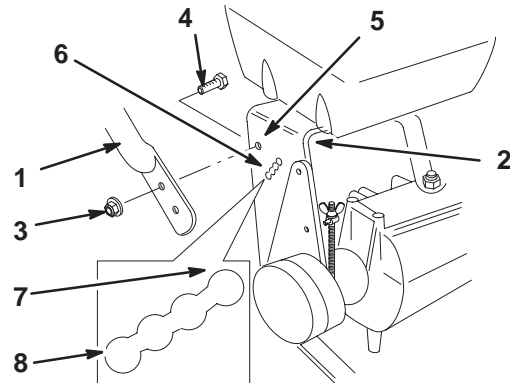

Figure 22
1. Remove hairpin cotter, washer and clevis pin securing control rod fitting to idler bracket (Fig. 22).
2. Loosen the upper flange bolts (3/8 x 1 inch) and flange nut securing handle to rear frame (Fig. 22).
3. Remove the lower flange bolts (3/8 x 1 inch) and flange nuts securing handle to rear frame (Fig. 22).